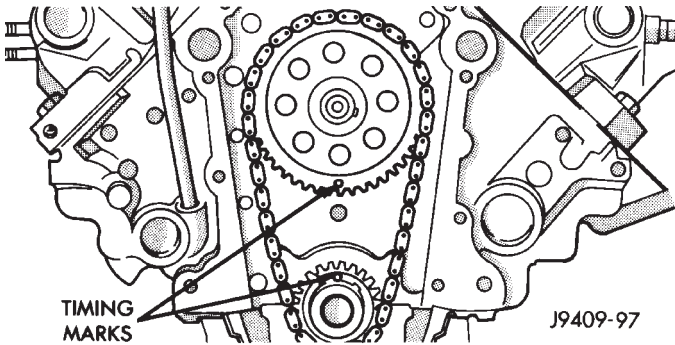

Fig. 6 Alignment of Timing Marks
(8) Turn crankshaft and camshaft to line up with keyway location in crankshaft sprocket and in camshaft sprocket.
(9) Lift sprockets and chain (keep sprockets tight against the chain in position as described).
(10) Slide both sprockets evenly over their respective shafts and use a straightedge to check alignment of timing marks (Fig. 6).